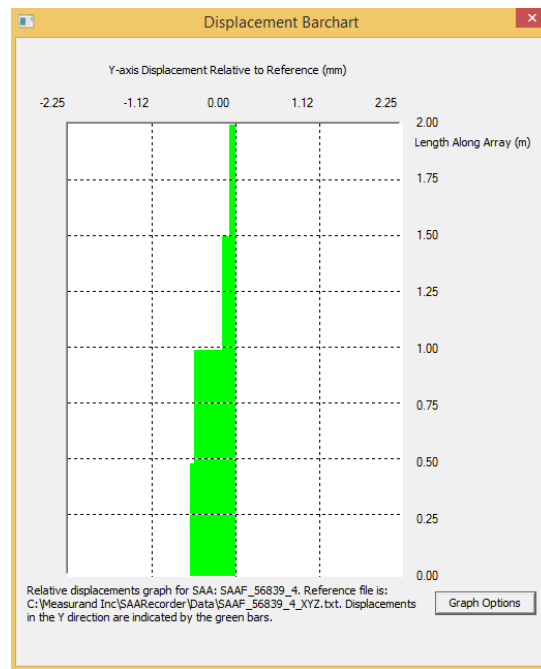

Figure 6.91: Y-axis Barchart of relative displacements.
4. Relative SAA displacements will appear in two windows similar to those shown in **Figure 6.90** and **Figure 6.91**.